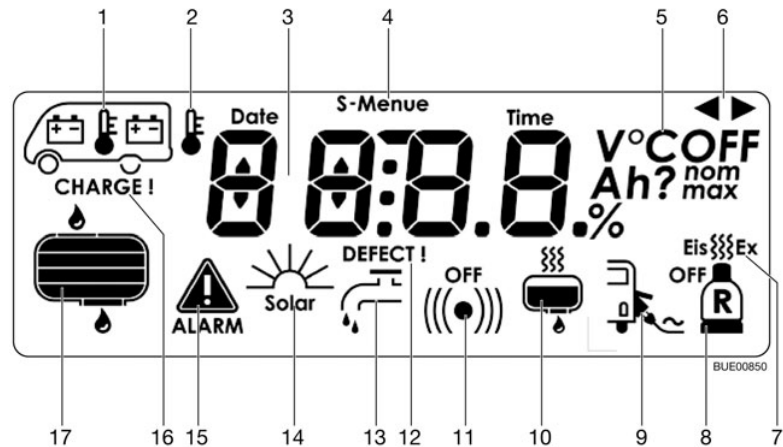

Fig. 56 Symbol representation in the LCD display
- Defroster (Fig. 56,7) switched on or off (optional).
- Switching facility for two gas bottles (Fig. 56,8) (optional): The gas bottle symbol appears when one of the two gas bottles is empty. If the second bottle is also empty, the symbol flashes and ("ALARM") (Fig. 56,15) appears in the basic menu.
- Net control (Fig. 56,9): The symbol appears if the vehicle is connected to the 240 V power supply.
- Heater for waste water tank (Fig. 56,10) (optional): The symbol appears if the heater for the waste water tank is switched on.
- Water pump (Fig. 56,13): The symbol appears if the water pump is switched on.
The basic menu appears and the symbols (Fig. 56,1, 15 and 16) flash as soon as the voltage of the living area battery falls below 12 V (measured under operation) and there is the threat of a total discharge. Additionally, the voltage indicator flashes in the battery menu.
The basic menu appears and the symbol (Fig. 56,1) flashes. The Ah-data and the "CHARGE!" command are also displayed in the battery menu.
The basic menu appears and the symbol (Fig. 56,1) flashes. The "DEFECT!" display is also displayed in the battery menu.